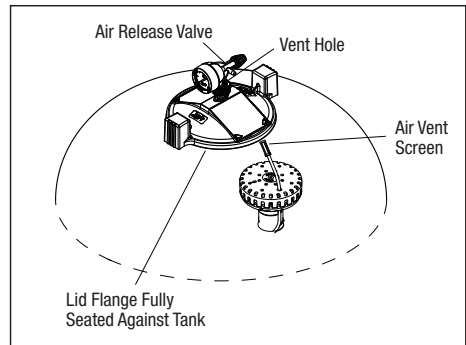

Figure 12. Filter Lid Installation
3. Check that the tank lid is correctly seated and tight, see Figure 12, and ensure the pressure gauge/relief valve assembly is fully installed in the lid.